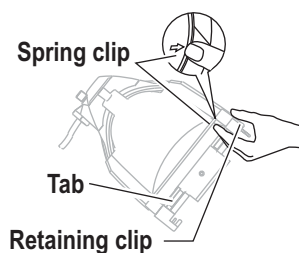

Figure 7
- Step 3: Tilt the front of the luminaire down at least 45°. See Figure 7.